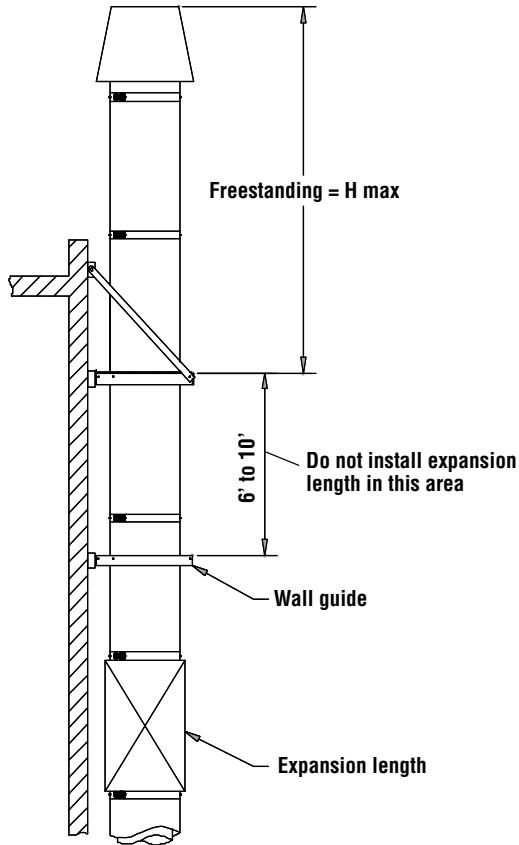

Figure 30 - Special considerations for exterior installation
4. Special considerations must be taken when installing on exterior wall. A wall guide must be installed between 6' and 10' below the highest wall support to stabilize the free standing portion of the chimney. Do not install a expansion length in this area due to bending forces induced by the freestanding portion. See **Figure 30** (special considerations).
1. The floor guide is used the same manner as the wall guide but it is modified for use at floor penetrations. See **Figure 30** (floor guide).